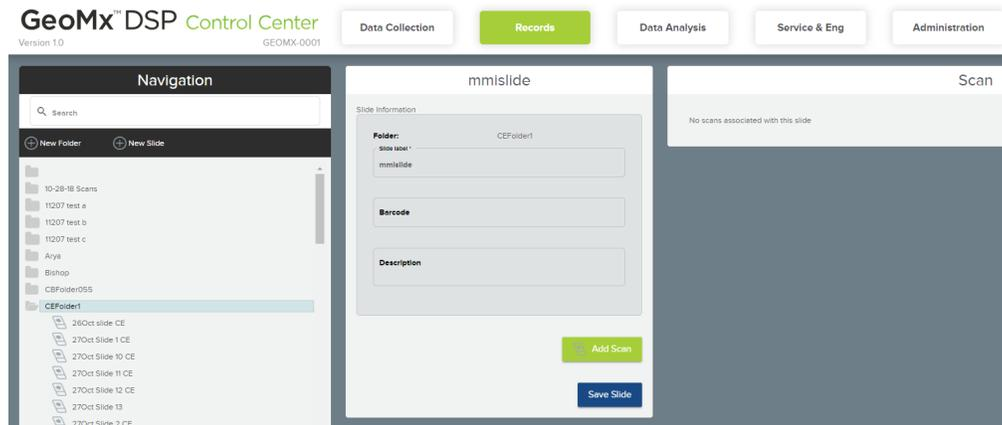

Figure 62: Slide record under Records in GeoMx DSP Control Center
1. If the selected slide record does not yet have a set of scan parameters associated with it, the Scan Card reads, "No scans associated with this slide" (Figure 62). To associate scan parameters with this slide record, click the **Add Scan** button in the **Slide Record** window.